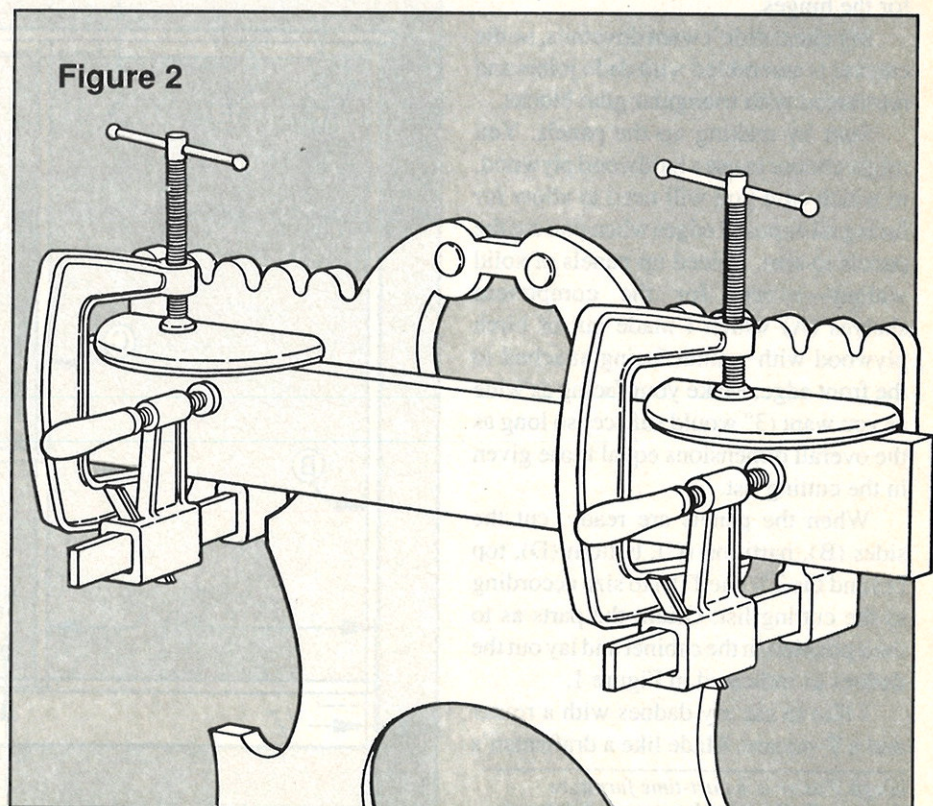

Figure 2
To drill pilot holes for the shelf screws, I found it easiest to clamp the shelves to a two-by-four batten and clamp the batten to the back panel, as shown in Figure 2. That way the two half shelves (B) could be perfectly lined up and held square to the panel. Screw all the shelves to the back panel without glue and apply your finish. Mask off the areas where the split turnings will be glued on so the finish won't interfere with the adhesion.